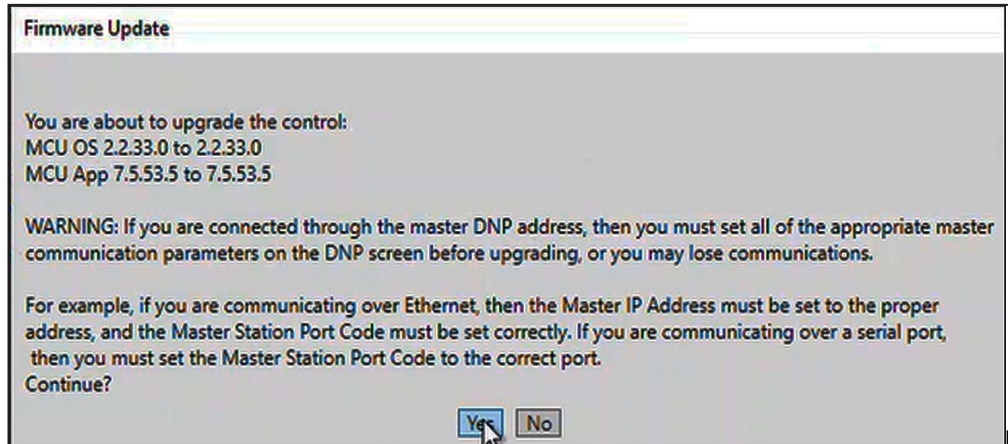

Figure 46. The Firmware Update dialog box.
STEP 17. In the Firmware Update dialog box, click on the **Yes** button. See Figure 46. Selecting “No” will end the **Downgrade** process.